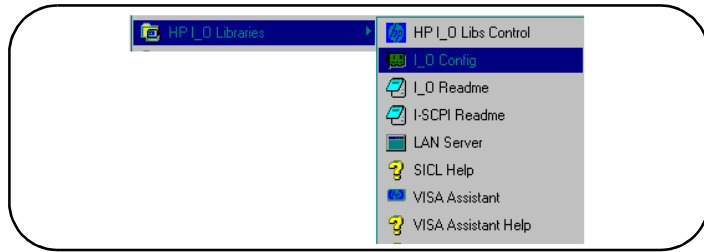
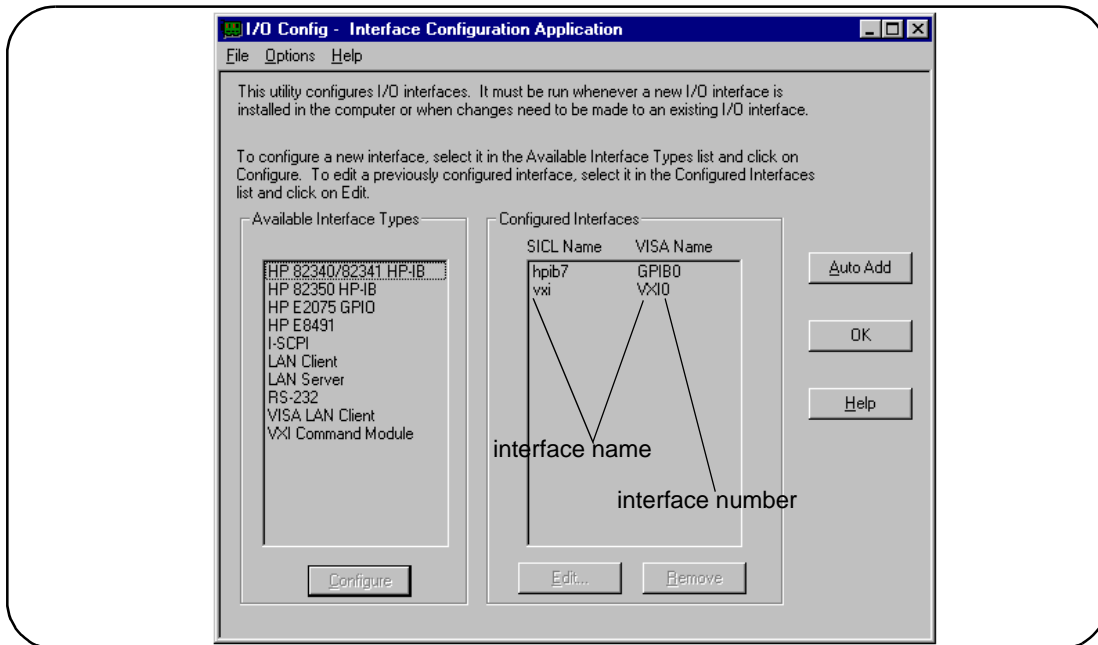
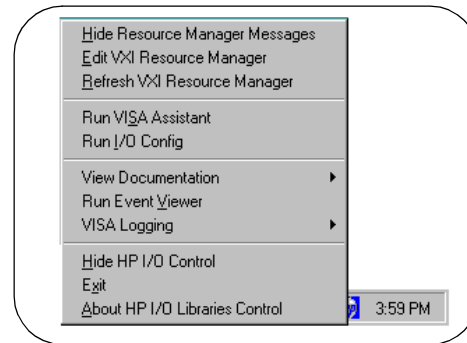

Figure 2-10. The HP I/O Libraries Program Group.
Figure 2-11. The HP I/O Libraries I/O Config Utility.
Figure 2-13. Editing Your Configuration on Windows 95 Platforms.
1. Connect the IEEE 1394 interface cable between the host adapter (PC) and one of the IEEE 1394 ports on the E8491B front panel.
3. From the HP I/O Libraries program group created when the libraries were installed (Start >> Programs >> HP I_O Libraries), click on ‘I_O Config’ (Figure 2-10).
An alternative is to click on the HP icon in the lower right-hand corner of your monitor which is placed there following the installation of the I/O Libraries and configuring the HP E8491B. Clicking on the HP icon brings up a pop-up menu like that shown in Figure 2-13. Click on “Run I/O Config”. Either method described in this step brings up a configuration window similar to Figure 2-11.
- Figure 2-11 returns with the SICL Name and VISA Name inserted. Click OK to close the utility and complete the configuration.
When it is necessary to edit your configuration, click ‘I_O Config’ in the HPI/O Libraries program group (Figure 2-10). To edit the HP E8491B, click (highlight) the configured interface (“vxi VXI0”) in the utility (Figure 2-11). This activates the ‘Edit’ and ‘Remove’ buttons at the bottom of the window.
After installing the HP I/O Libraries and configuring the HP E8491B on the Windows 95 platform, an *hp* icon is placed in the bottom right corner of your PC monitor (Figure 2-13).
Runs the I/O Config utility and brings up the “I/O Config - Interface Configuration Application” window shown in figure 2-11.
2. Click on Start >> Programs >> I_O Config to bring up the I/O Config window (Figure 2-11).
- activated from the 'I/O Control' icon (see Figure 2-13)